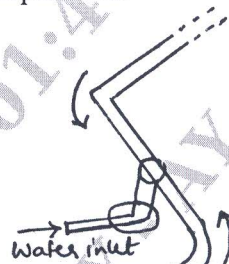

Fig.Q.7(b)
- 6 a. Show that the degree of reaction (R) for an axial flow compressor is given by :
- b. Find the utilization factor and the degree of relation for a sprinkler shown in Fig.Q.7(b), the water leaves the jet with an absolute velocity of 3m/s and the sprinkler arms are 0.2m in length and it rotates at a speed of 140rpm. (07 Marks)